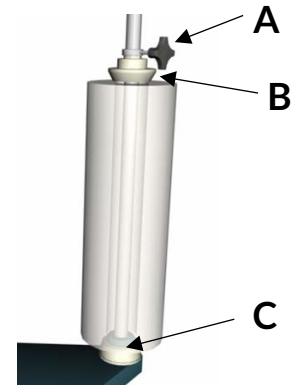

Fig. 3-1
Step 1 - Loosen fastening screw "A" and take off roll holder "B". (See Fig. 3-1)
Step 2 - Center the film core over the film shaft and lower onto the lower orientation plate "C" of the film shelf. (See Fig. 3-1)
Step 3 - Mount roll holder "B" and re-tighten fasteningscrew "A". (See Fig. 3-1)